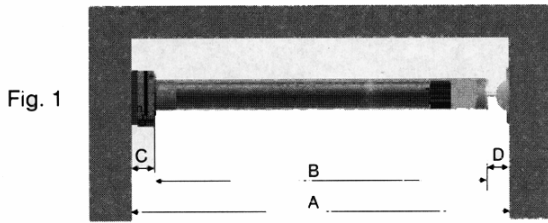

Fig. 1
- Cut the tube to the required length (B), taking into account the width of the installation (A), the motor end clearance (C), and the idler end clearance (D). (See Fig. 1)